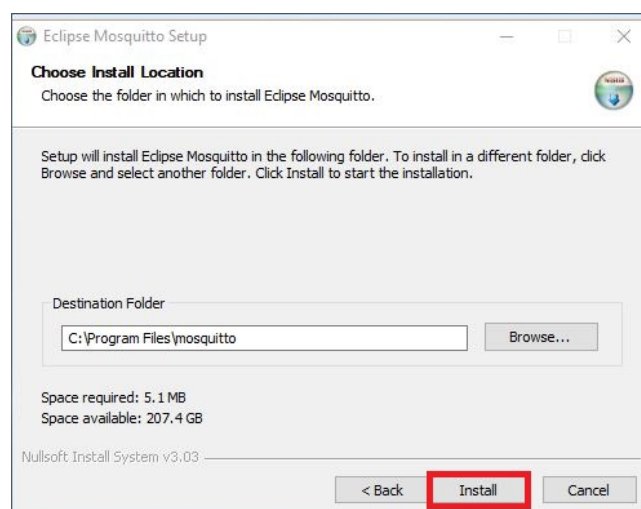

Figure 4.7: Launch of Fast Mode installation
7. Click "Install" to start the installation, as shown in Figure 4.7.